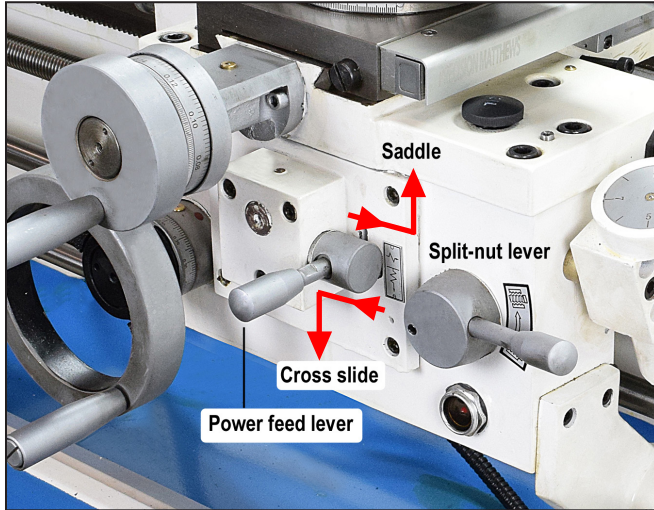

Figure 1-9 Feed control levers on apron
3. Saddle and cross slide approx. mid-travel, power feed disengaged (Figure 1-9).
Also note: In initial tests, because the saddle and cross slide should first be exercised manually, the leadscrew split-nut should be disengaged — ditto the saddle/cross-slide power feed lever, Figure 1-9. The power feed lever can be either in or out, but it should be centered, neither up nor down.